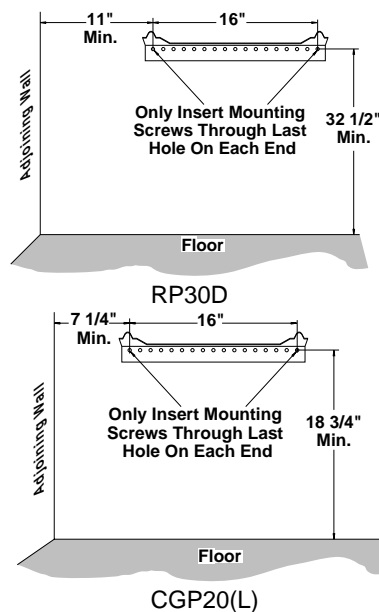

Figure 7 - Mounting Bracket Clearances
2. Mark screw locations on wall (see Figure 7).
WARNING: Maintain minimum clearances shown in Figure 7. If you can, provide greater clearances from floor and joining wall.